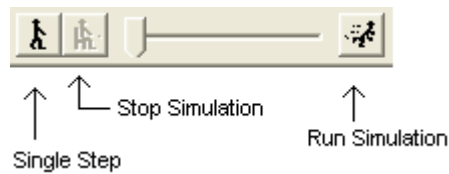

Figure 11 Simulation tools icons
- To run a simulation, the simulation menu provides the tools to aid in the simulation process as shown in figure 11.